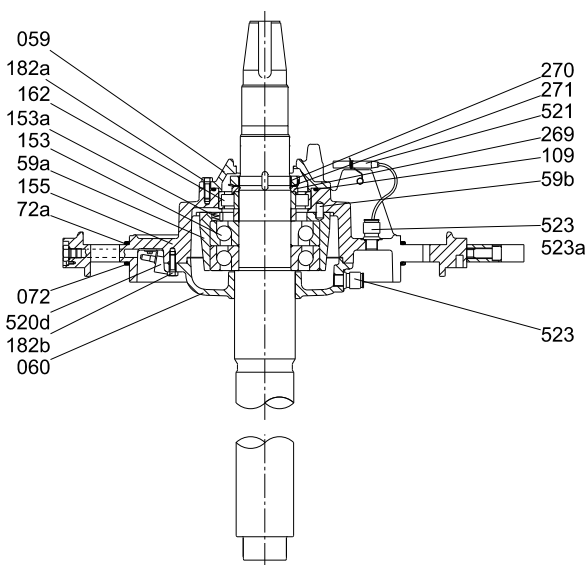

Fig. 26 Rotor, range 72
2. See fig. 26. Disconnect the cable gland (523) in the lower bearing bracket cover.
3. Disconnect the bearing sensor and remove the cable gland from the upper bearing bracket cover (60).
4. Remove the screws (182b) and remove upper bearing bracket cover (60) of the lower bearing bracket. Leave the cover lying against the stator windings.
6. Remove the lower bearing bracket cover (59) of the lower bearing bracket and remove the O-ring (109).
7. Remove the lock nut (270), lock washer (271) and angle ring (269).
8. Remove the lower bearing bracket (155) using a hoist.